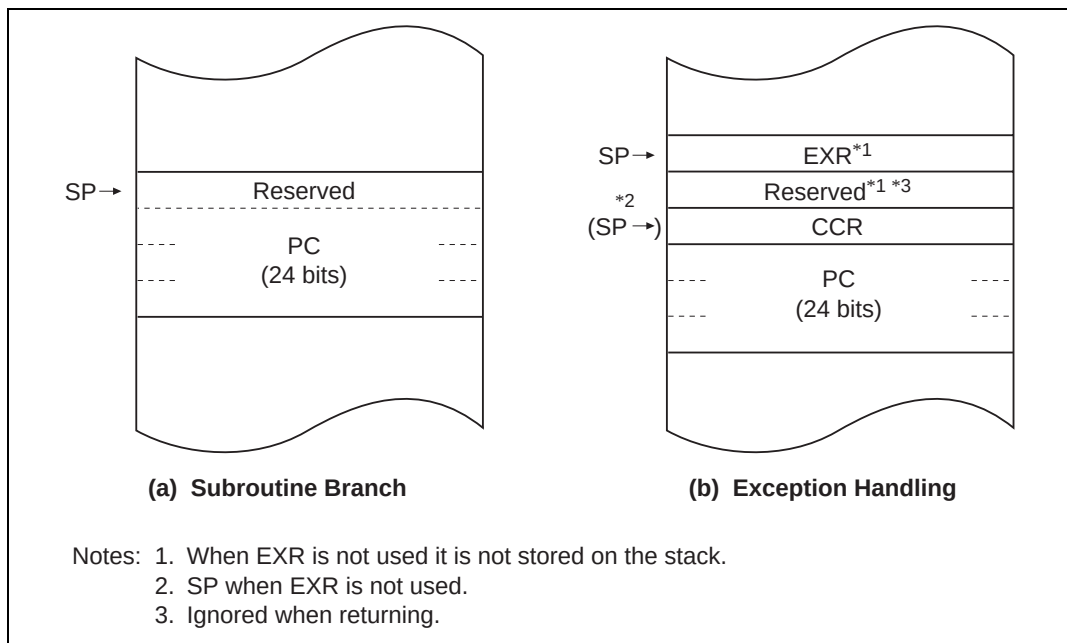

**Figure 2.2 Stack Structure in Advanced Mode**
**Stack Structure:** In advanced mode, when the program counter (PC) is pushed onto the stack in a subroutine call, and the PC, condition-code register (CCR), and extended control register (EXR) are pushed onto the stack in exception handling, they are stored as shown in figure 2.2. When EXR is invalid, it is not pushed onto the stack. For details, see section 4, Exception Handling.